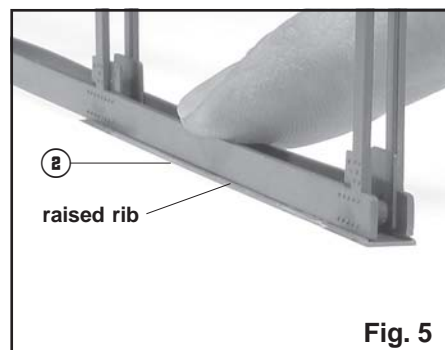

Fig. 5
Note that all bent lattice parts have a raised rib along each edge on one face. To assemble the outside bent lattice, lay part (2) flat on the work surface with the rib side up. Place the bent assembly on edge on top of part (2) so the ribs are on the outside of each bent half. See fig. 5. Cement in place, one edge at a time, while holding the bent half against the rib. Be sure the end of part (2) is flush with the end of the bent. Repeat with parts (3), (4), and (5).